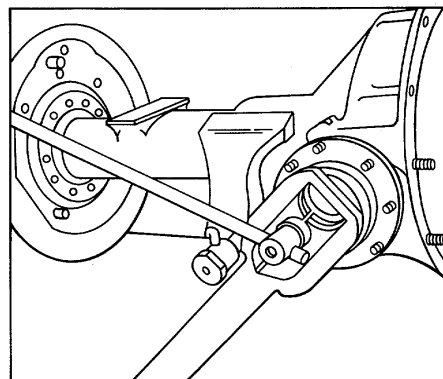

Figure 6.
1. Secure yoke with holding tool and remove pinion shaft nut and washer (refer to Fig. 6).